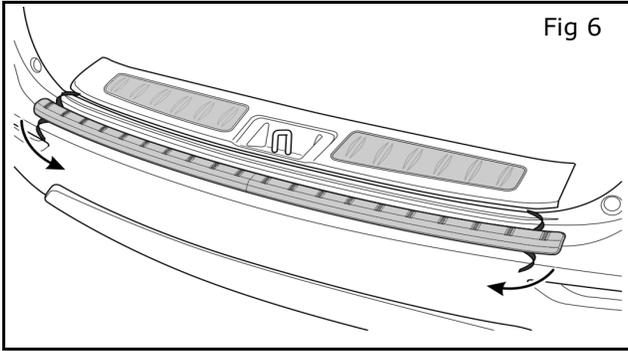

Fig 6
- 11) While holding the part in position, with one hand at the center arrow, remove the rear tape liners. (Fig 6)